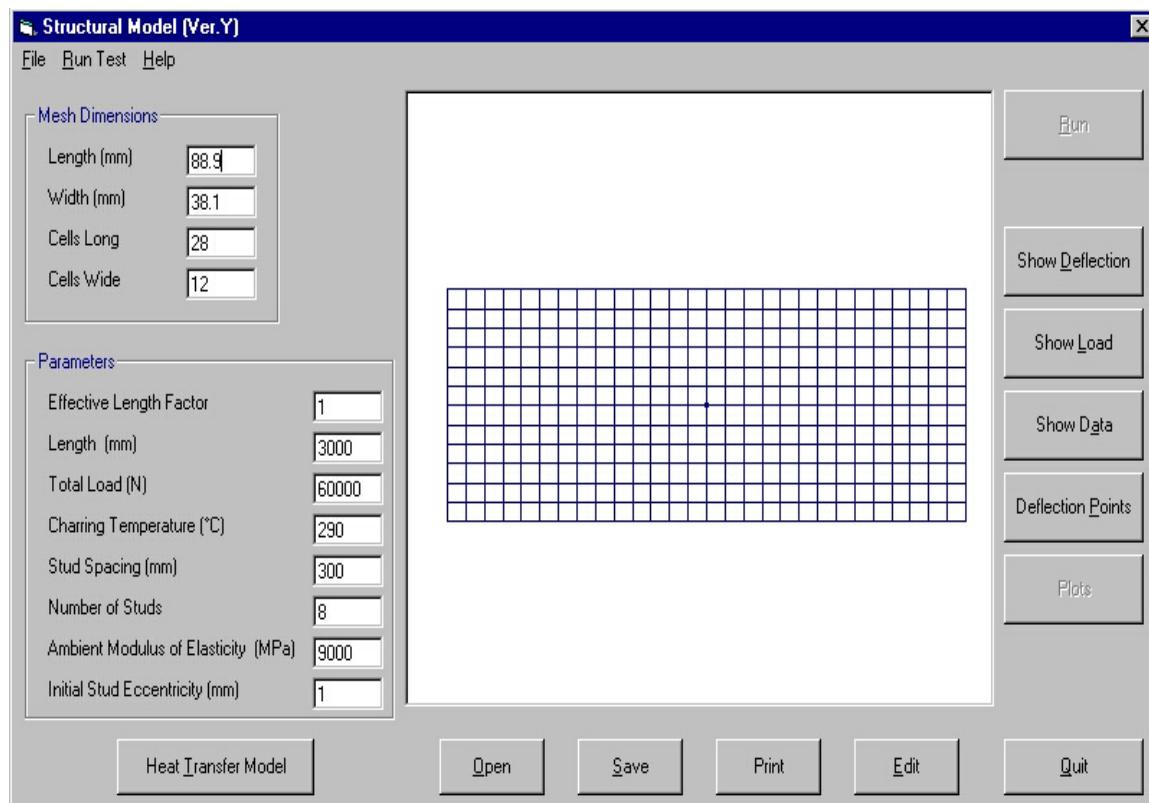

Figure 3.27. Main Screen After the Program is Run
5. If there is sufficient data, the program will be executed and the Main Screen (Figure 3.27) will be displayed.
The user can access these from the buttons on the right side of the main window (see Figure 3.27), as well as from the Run Test menu (Figure 3.30).